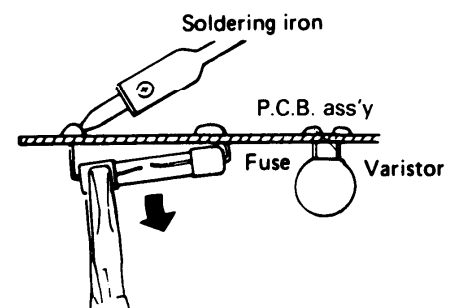

Fig. 15
2. Pull out the fuse at the metal clasp by a pair of pliers while heating the soldered leads on the back side of the P.C.B. ass'y with a soldering iron (30W or 60W). Fig. 15.